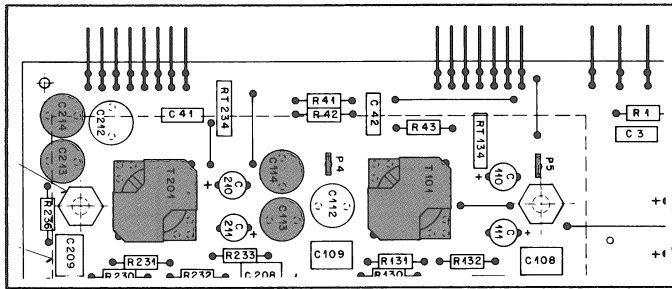

Fig. 9
- Preselect edit and adjust the edit tape tension with trimmer potentiometer RA4 (Fig. 9) in such a way, that about the same amount of tape is unwound when the reel is turned with the same force.
- Connect the "-" lead of the analog multimeter to P5 (CH1) or P4 (CH2) of the ERASE AMPLIFIER BOARDS (Fig. 9) and connect the "+" lead to test point 37 of the extender board.